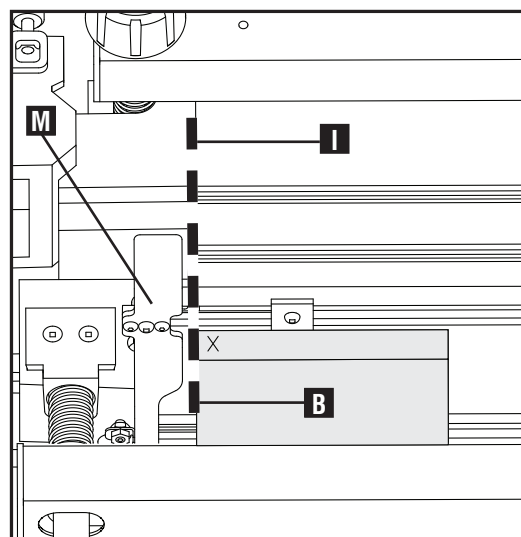

Fig. H10
6. As described in the "PROJECT LAYOUT" section, be sure the tenon board (shelf) (B) Fig. H10 is oriented with the "rear edge" of the shelf to the left before mounting.
7. Place the tenon board (shelf) vertically against the front of the jig base and mark the left side of the end grain as shown in Fig H10 with an "X". Line up the left edge of the board (B) with the left edge of the textured surface of the jig base (I).
8. If you intend making multiple cuts (ie, multiple shelves), it is recommended that you slide the left edge guide (M) Fig H10 over until it is flush with the left side of the tenon board and tighten it down to the front of the jig. The edge guide can then be used as a reference for the proceeding tenon board cuts.